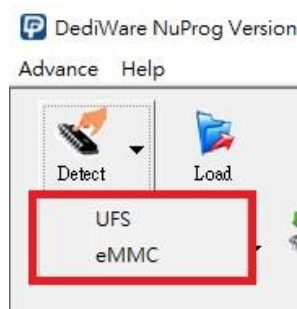

Fig. 5-13
- **Detect:** Choose correct IC type to detect IC (Fig. 5-13) or choose the model number manually. If the data list has the corresponding model number that is supported, software will automatically import the values of the UFS, and the Log will appear as below (Fig. 5-14). If the IC model number that you need are not listed (Fig. 5-15), please feel free to contact us.